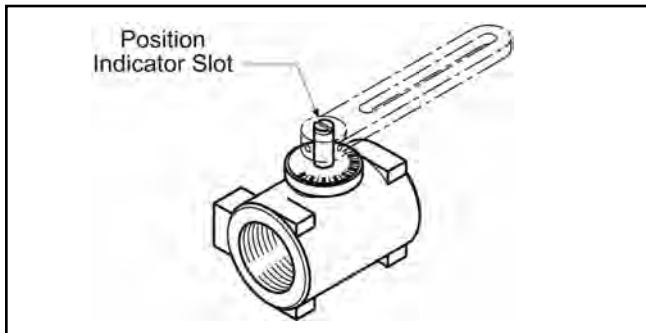

Figure 5-3
**HOW IT WORKS** - See Figure 5-3. A centrally located disc turns within a cylindrical body which regulates the gas flow to the main burner flame. The butterfly valves used are the non-tight shutoff type.